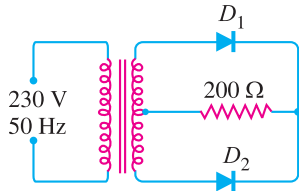

Fig. 6.76
7. In Fig. 6.76, the maximum voltage across half of secondary winding is 50 V. Find (i) the average load voltage (ii) peak inverse voltage (iii) output frequency. Assume the diodes to be ideal. [(i) 31.8 V (ii) 100 V (iii) 100 Hz]